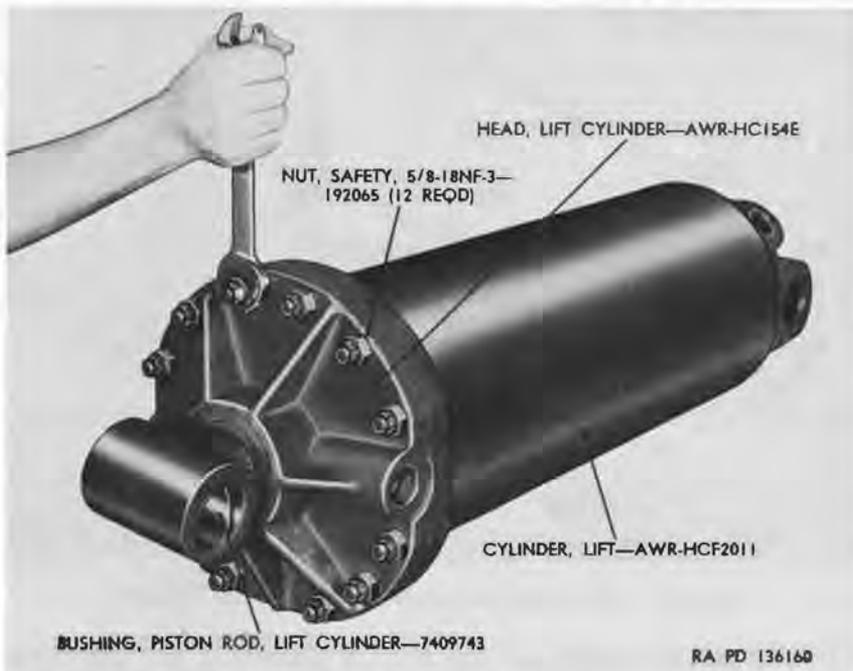

Figure 8. Lift cylinder assembly.
*a. General.* It will not be necessary to disassemble the lift cylinder assembly (fig. 8) unless it is known to be defective. If disassembly is necessary, extreme care must be exercised to avoid damage to the highly polished surfaces of the cylinder assembly. Do not remove oil seal or bushings unless inspection (par. 78) reveals that replacement is necessary.
- (1) Remove 12 safety nuts (D) and remove lift cylinder head (E) with piston and rod from lift cylinder (Q).